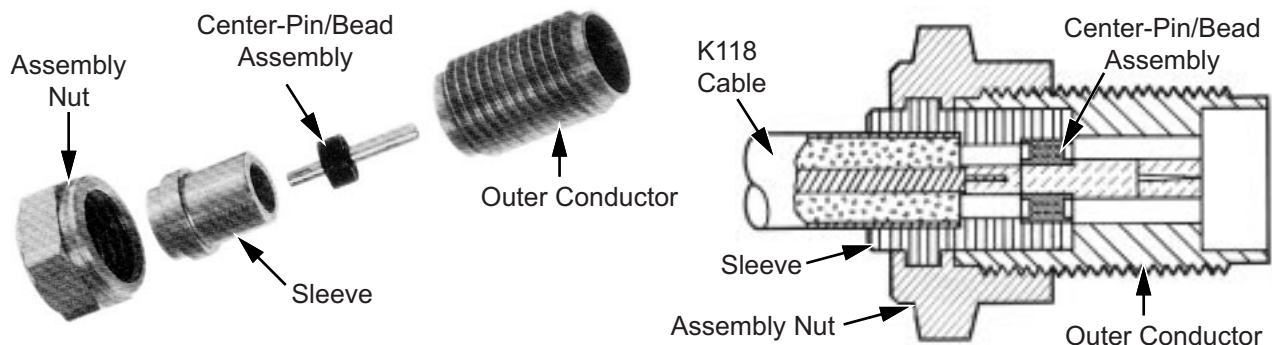

Figure 1-1. K101F-R Assembly
Fabrication instructions for the cable assembly are given below. Refer to Figure 1-1 to identify the connector parts referenced in the procedure.
7. Slide the sleeve onto the cable, as shown in Figure 1-1, and place the solder ring against it.